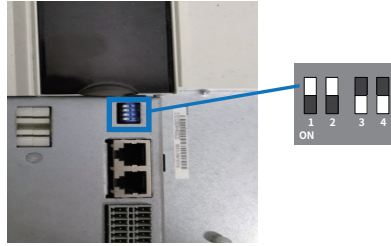

Figure A-3 Termination resistor DIP switch
- 1) Open the front covers of the master and slave drives, and turn on the termination resistor DIP switches 3 and 4, as shown in Figure A-3.